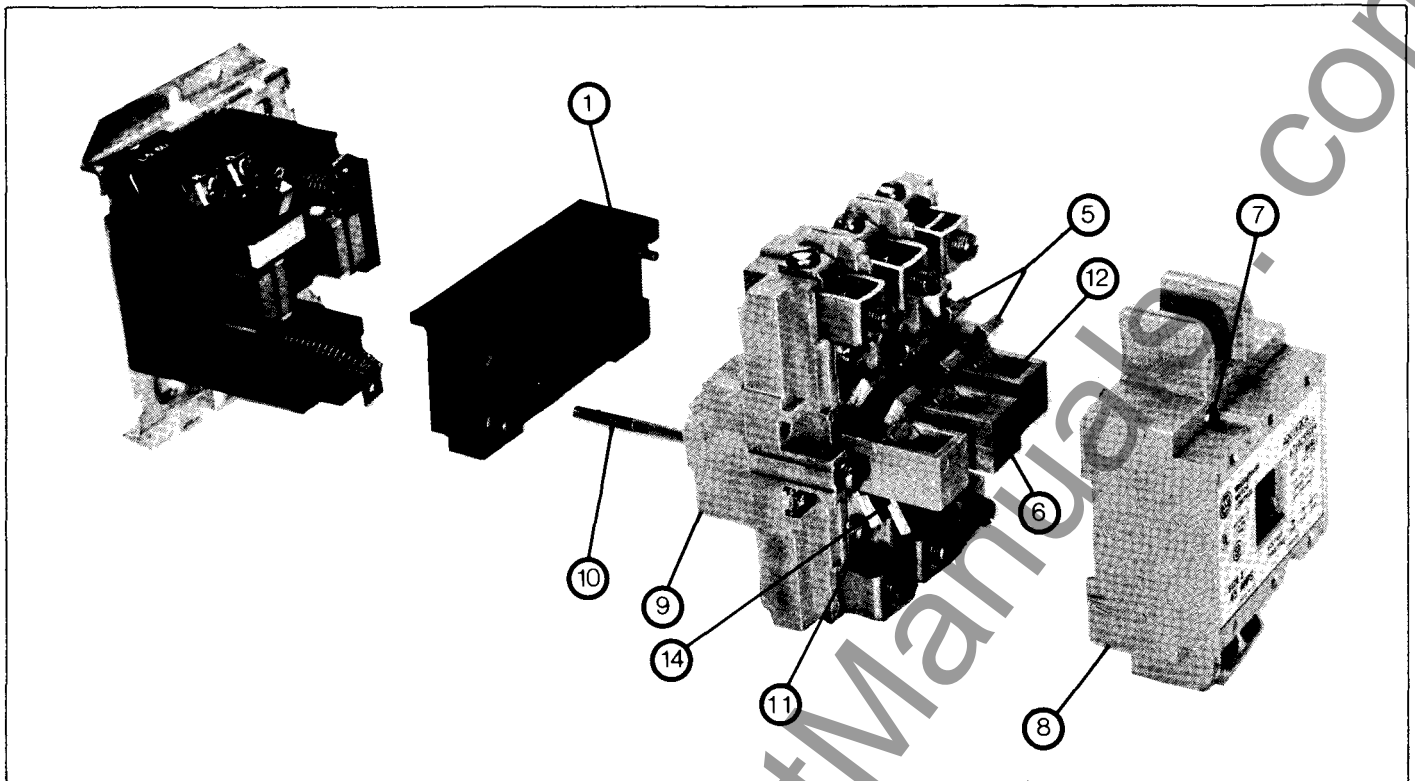

Fig. 7 Size 2 A200 Contactor (Exploded View)
Refer to Figure 7. Loosen the two arc box assembly screws (7) located immediately above and below the nameplate and remove the arc box (8). Contacts (5) are visible. Retighten the screws per Table IV.
Refer to Figure 7. Loosen the assembly screws (10) located to the immediate left and right of the arc box. Remove connector straps to the overload relay. Pull the loosened upper base structure (9) forward. Pull the coil (1) from the upper base, plug in a new coil, replace the upper base structure and check the auxiliary contacts for secureness when repositioning the upper base. Tighten the